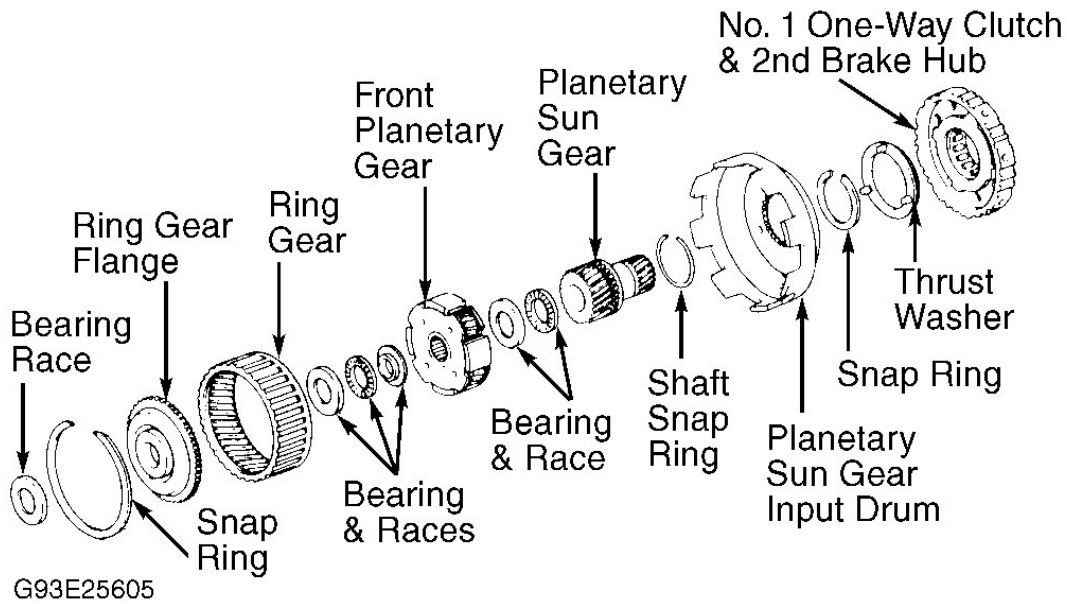

Fig. 31: Exploded View Of Front Planetary Gear
2. Remove thrust washer from sun gear input drum. Remove snap ring. Remove sun gear input drum. Remove shaft snap ring from sun gear. Remove one-way clutch retainer if clutch requires replacement. Remove one-way clutch from hub. See **Fig. 31** .
Install shaft snap ring to sun gear. Install sun gear to drum. Install snap ring to drum. Install thrust washer to sun gear input drum. See **Fig. 31**. Rotate hub clockwise. Install one-way clutch and 2nd brake hub. Check one-way clutch operation. Hold sun gear and rotate hub. Hub should rotate freely clockwise and lock counterclockwise.